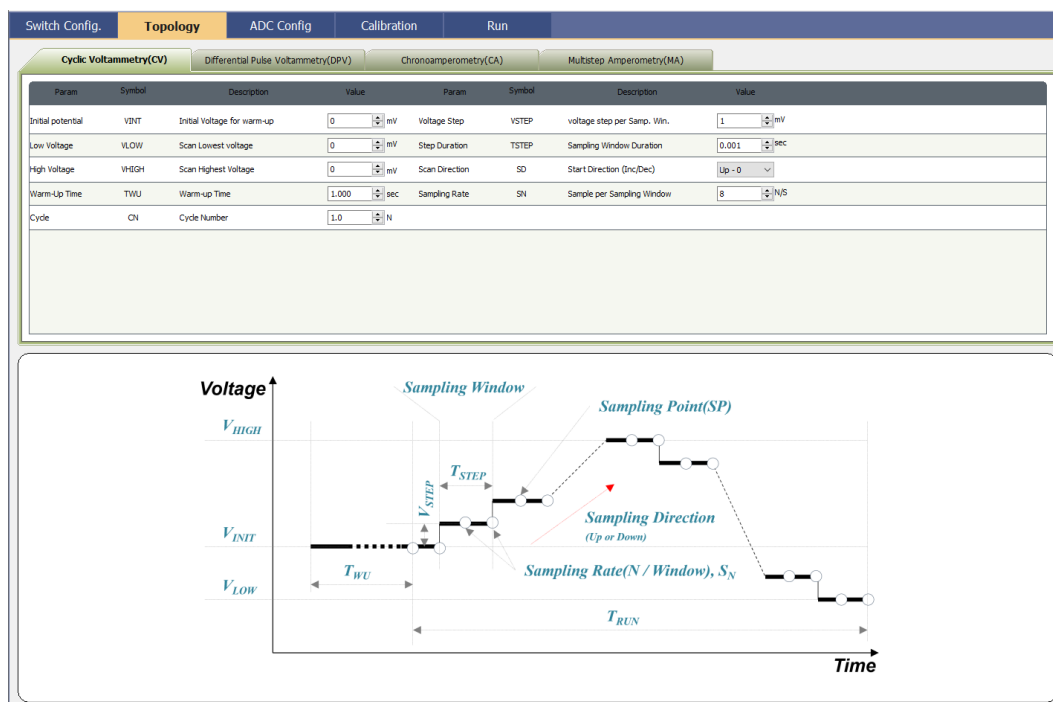

Figure 7 Topology CV
- Cyclic Voltammetry Selection: When CV is selected in the Topology Tab, the interface updates as shown in Figure 7, and relevant parameters can be referred to in Table 1.